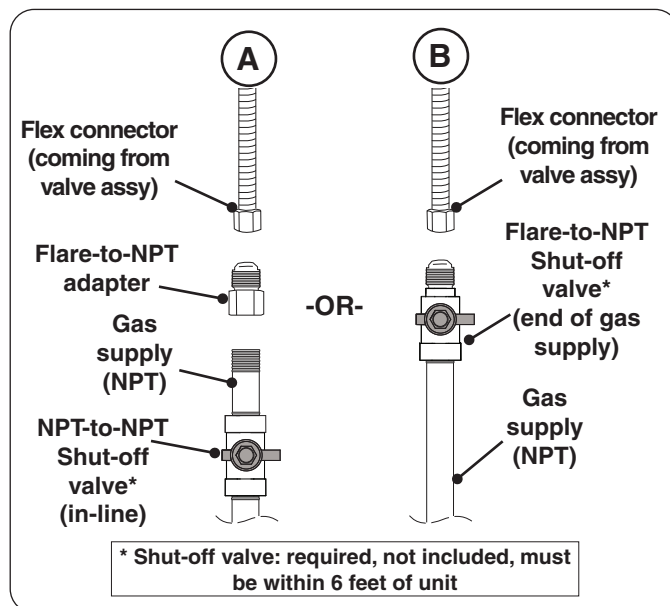

Fig. 30-1 Connecting to a gas line
- Install the supplied flare-to-NPT adapter to the gas supply (NPT) using a pipe joint compound resistant to all gasses (see Fig. 30-1, A). Tighten securely.
- Connect the flex connector to the adapter (see Fig. 30-1, A). Tighten securely.
- Connect the flex connector to the shut-off valve (flare)(see Fig. 30-1, B). Tighten securely.